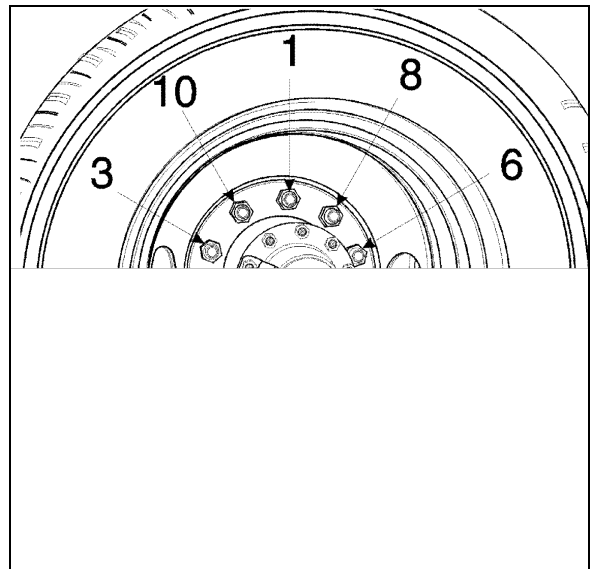

FIGURE 2: TIGHTENING SEQUENCE 13018
It is also important that wheel stud nuts be tightened alternately on opposite sides of the wheel. Refer to Figure 2 for the suggested tightening sequence.
Tighten stud nuts progressively as shown in Figure 2. The final tightening should be done with a torque wrench. Tighten stud nuts to 450 - 500 lbf-ft (610 - 680 Nm) for aluminum as well as steel wheels.
2. Screw in the hex stud nuts (refer to Figure 2 for sequence) so that wheel will position itself concentrically with hub. This is important, otherwise wheel may be eccentric with hub and will not run straight. In this initial step, slightly tighten the nuts to correctly position the wheel;
3. Tighten stud nuts progressively as shown in Figure 2. The final tightening should be done with a torque wrench. Tighten stud nuts to 450 - 500 lbf-ft (610 - 680 Nm) for aluminum as well as steel wheel.